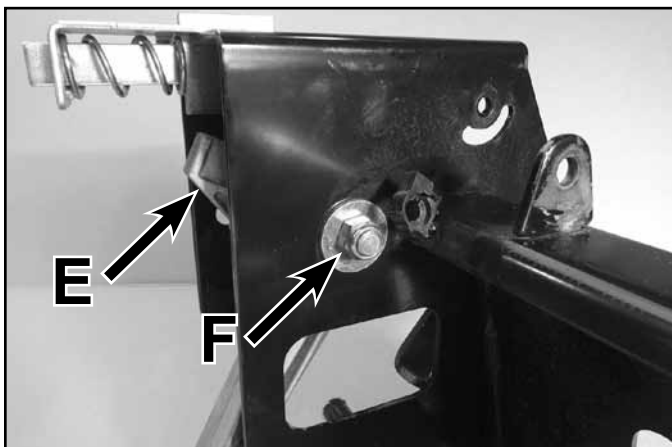

Fig. 033
5. Remove the activator arm pivot bolt and nut (F) and the activator arm assembly (E) from the control box (Fig. 033).